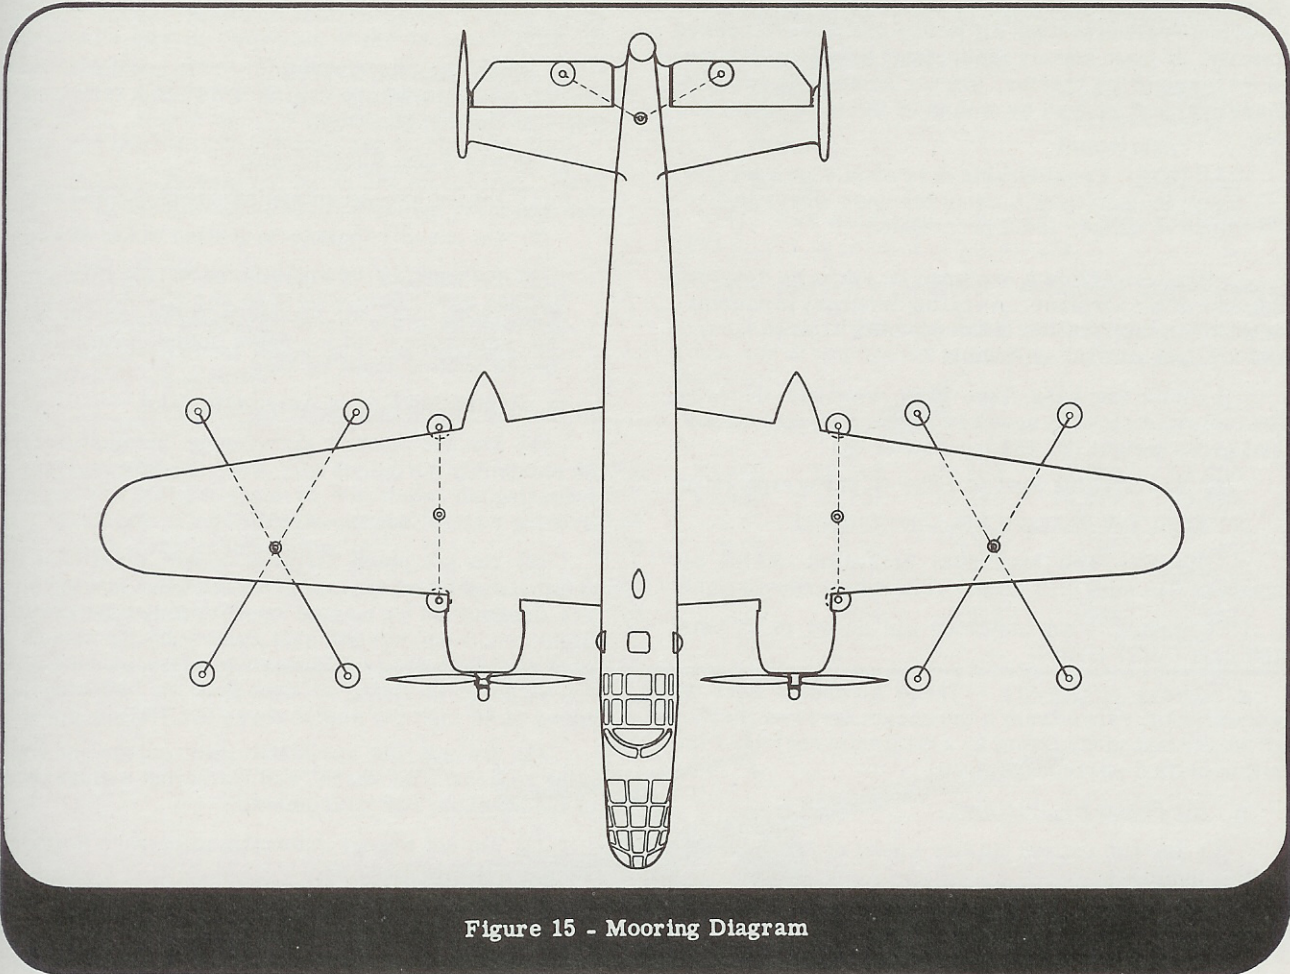

Figure 15 - Mooring Diagram
b. Install the four wing mooring shackles, the one in the fuselage and the one on the underside of the tail skid. Type D-1 mooring kit will be used. (See figure 15.)